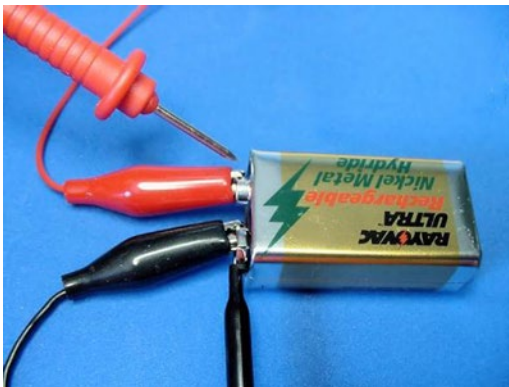

Figure 11-4. Black probe hooked onto negative battery terminal. Red probe can be moved freely
3. With the black alligator clip still attached, connect the multimeter's black test probe hook to the negative terminal of the 9 V battery (see Figure 11-4). The black test probe will stay there as you touch the red test probe tip to various other locations on the circuit.